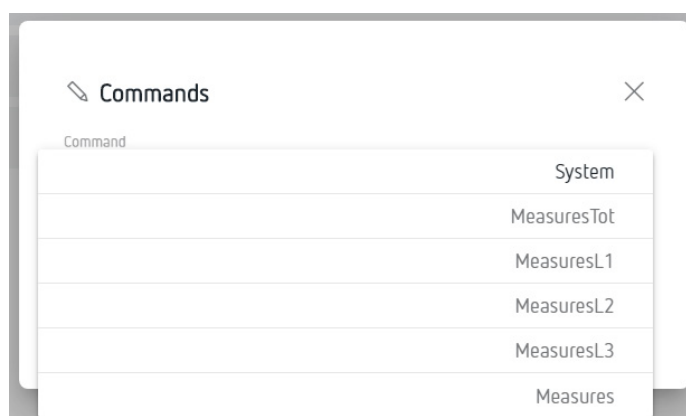

Figure 27: Device screen: Commands.
- ✓ Test communication with a device, . Pressing the button makes the screen in Figure 27, appear, where you can select and send a request for a device memory location to test the communication.